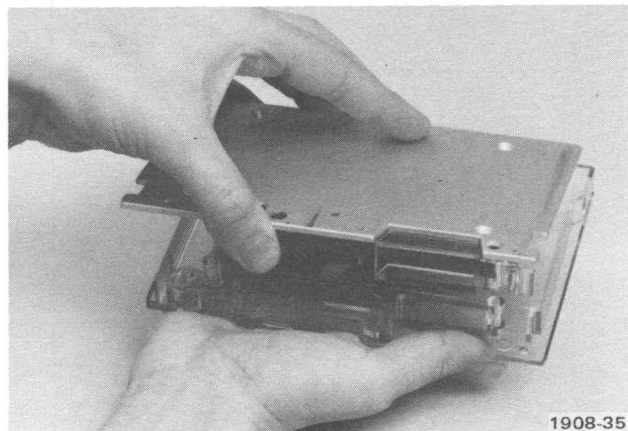

Fig. 3-11. Disassembling the tape cartridge.
2. Carefully remove the cartridge base from the plastic cover. Be careful not to lose the Write-Protect cylinder or the small metal spring between the cylinder and the metal base (Fig. 3-11).